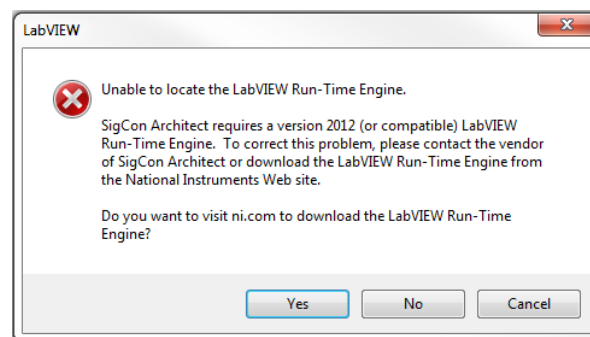

Figure 11. Error Dialog when Attempting to Run SigCon Architect without the RTE
13. In the event that LabVIEW RTE fails to install and you attempt to open SigCon Architect anyway, the error in Figure 11 will appear. Select “Yes” to launch a URL that will bring you to the LabVIEW RTE download page, after which you can install LabVIEW RTE directly from NI.com.